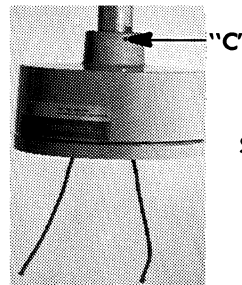

Figure 2
3. Install fixture on conduit allowing systems wiring to extend through fixture. (See Figure 2)